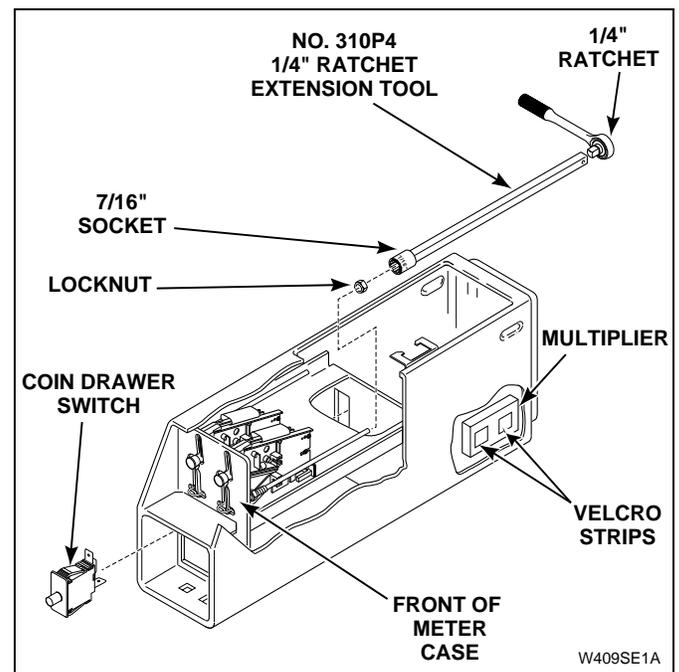

Figure 15
- (4.) Remove wire harness from multiplier (*Figure 15*). Move wire harness out of the way.
- (5.) Remove multiplier from inside meter case. See *Figure 15*.
- (6.) Press in on locking tabs of coin drawer switch and remove switch through front of meter case. See *Figure 15*.
- (7.) Use a 7/16 inch socket with No. 310P4 1/4 inch Ratchet Extension Tool and remove two locknuts holding coin drop to front of meter case. See *Figure 15*.
- (11.) Reinstall multiplier and reconnect wires. See *Figure 15*.